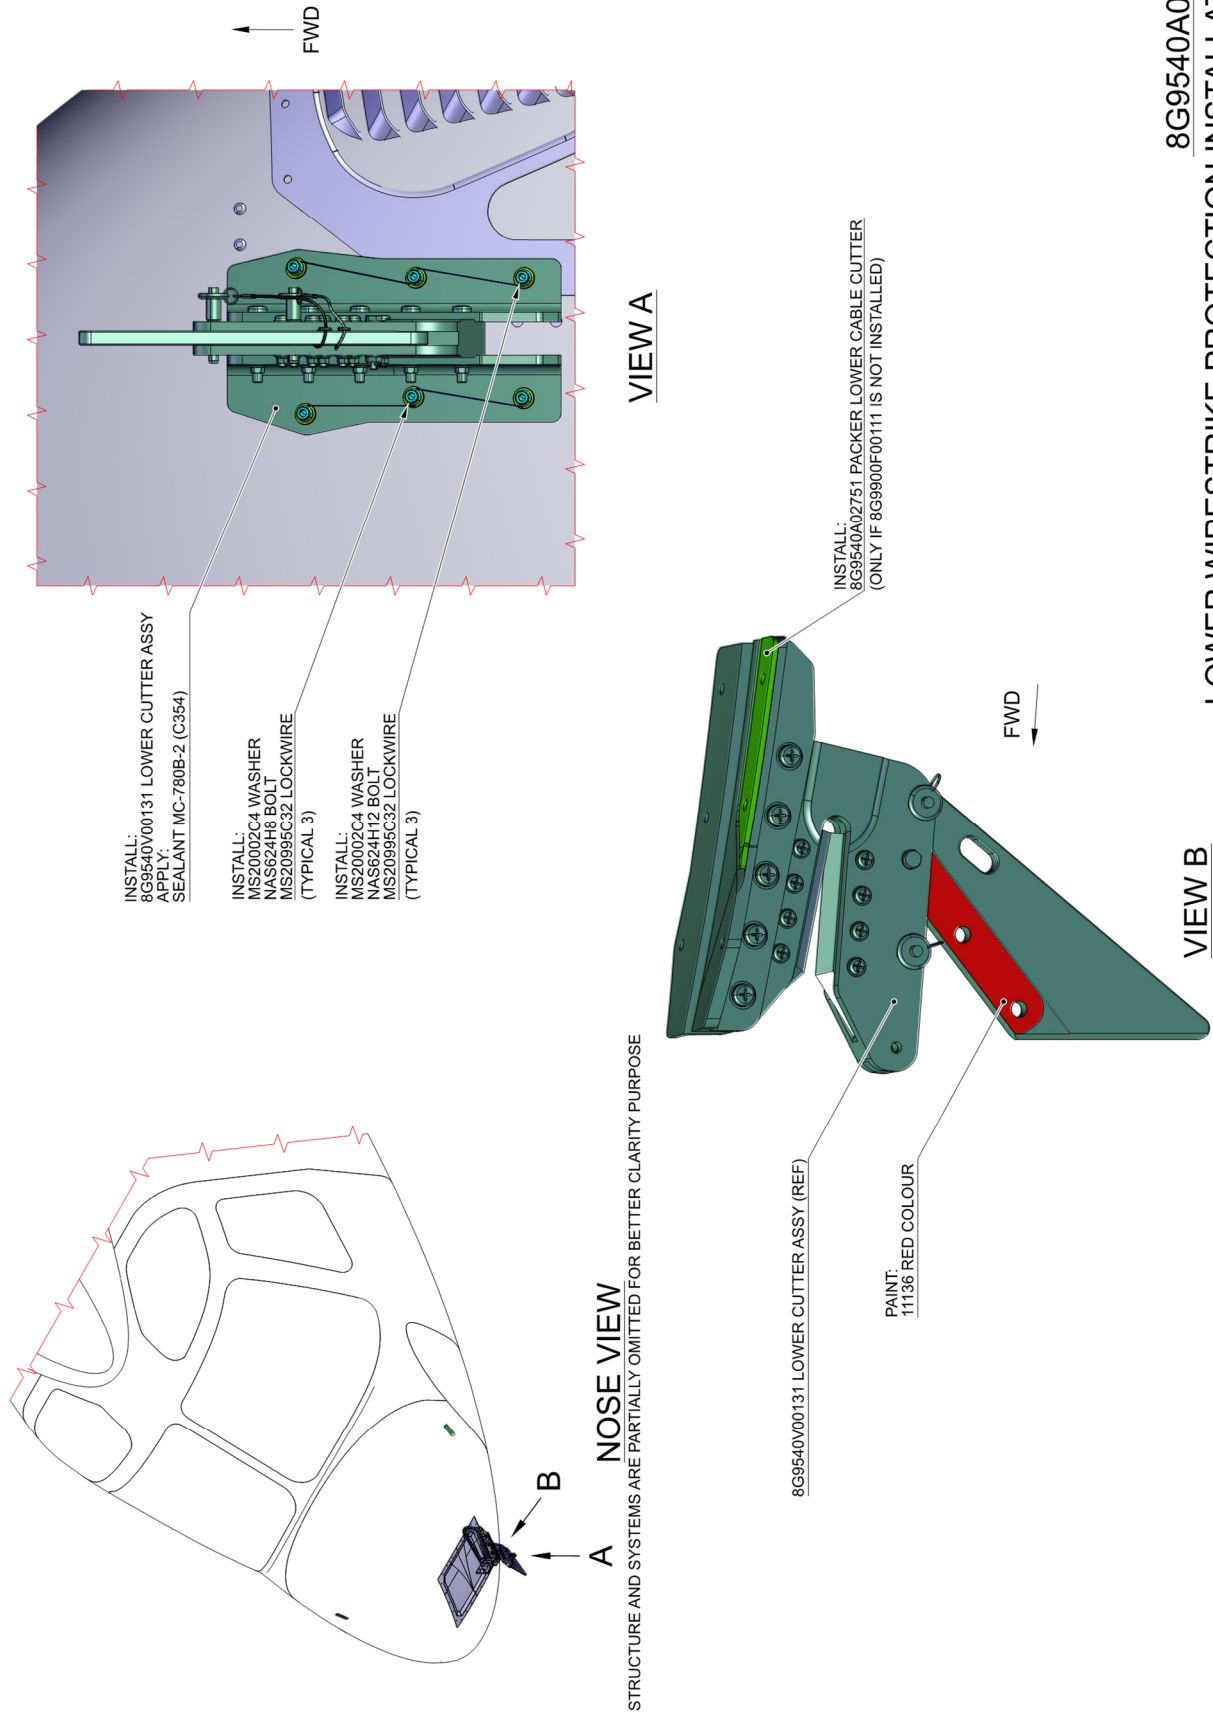

Figure 6
2. In accordance with DM 89-A-06-41-00-00A-010A-A and with reference to Figure 6, remove all external panels, internal panels and internal liners as required to gain access to the area affected by the installation and perform “lower wirestrike protection installation” P/N 8G9540A02911 as described in the following procedure:
- 2.2 With reference to Figure 6 View A and View B, install the “lower cutter assy” P/N 8G9540V00131 and the “packer lower cable cutter” P/N 8G9540A02751 on the fuselage by means of n°6 washers P/N MS20002C4, n°3 bolts P/N NAS624H12 and n°3 bolts P/N NAS624H8. Safety the six bolts by means of lockwire P/N MS20995C32. Torque the fixing hardware to 6.32 thru 8.92 Nm.
- 2.3 With reference to Figure 6 View A, install the lower cutter assy P/N 8G9540V00131 on the fuselage by means of n°6 washers P/N MS20002C4, n°3 bolts P/N NAS624H12 and n°3 bolts P/N NAS624H8. Safety the six bolts by means of lockwire P/N MS20995C32. Torque the fixing hardware to 6.32 thru 8.92 Nm.
- 2.4 With reference to Figure 6 View A, apply sealant MC-780 C2 (C354) all around the
- 2.5 With reference to Figure 6 View B, paint the indicated surface with 11136 red colour.